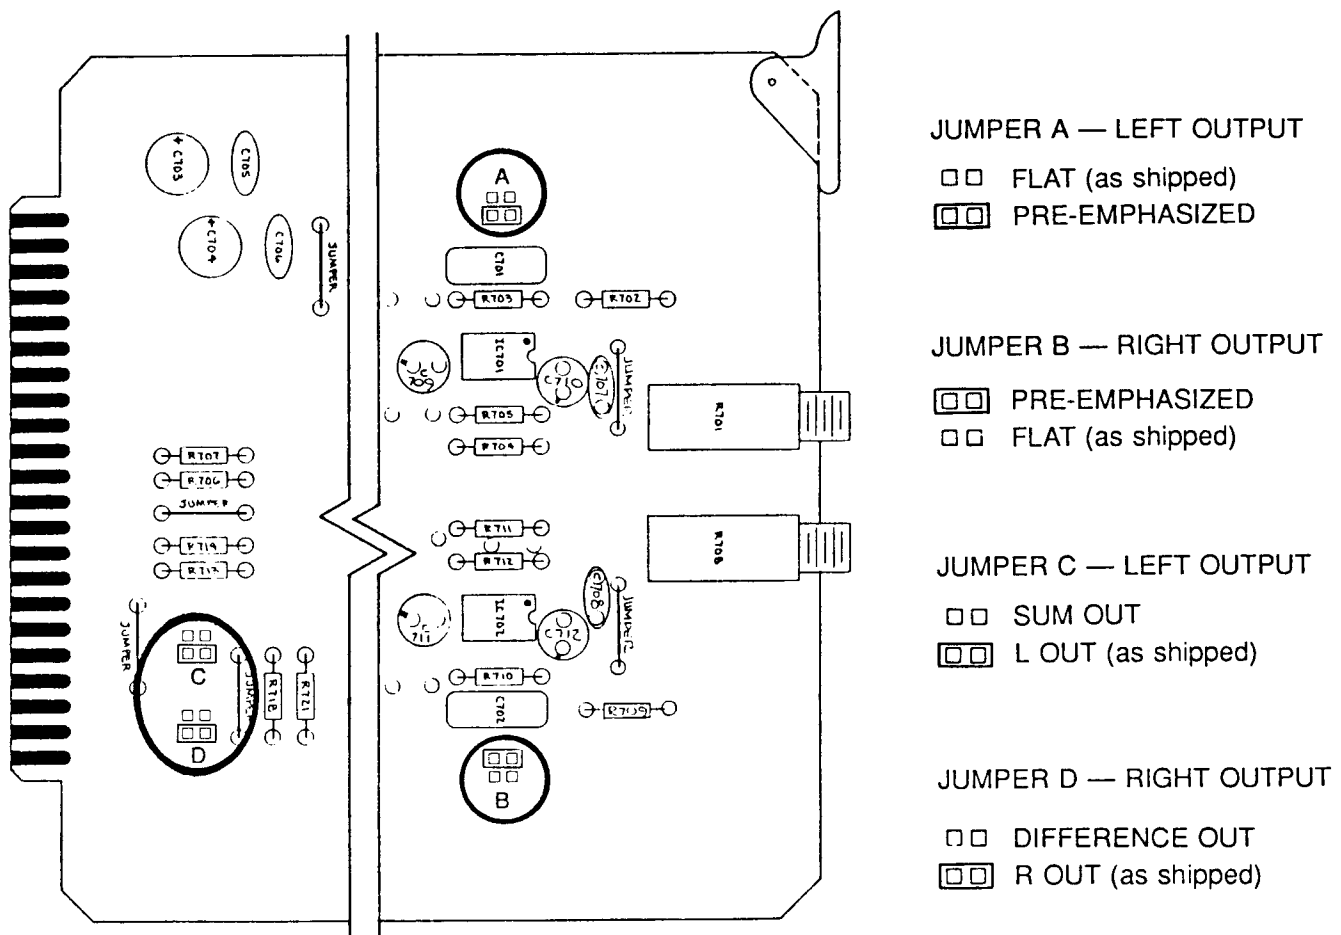

Fig. 2-6: Jumper Positions, 8182A Audio Processor Card #7
- A On the 8182A Audio Processor's Card #7, reposition jumpers A, B, C, and D as shown in Fig. 2-6.